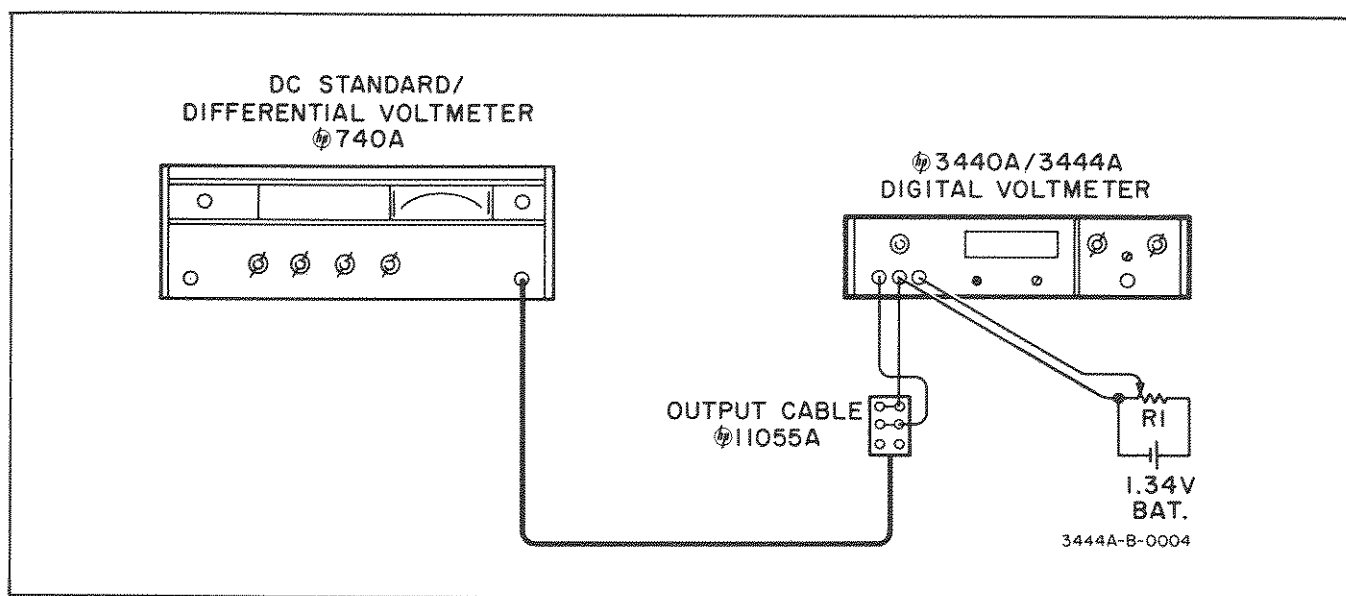

Figure 5-6. Ammeter Common Mode Rejection Test Setup.
5-31. Connect the test setup in Figure 5-6 with the output of the DC Standard turned off at the output switch.
- j. Replace the 740A Standard in the test setup, Figure 5-6, with the Audio Oscillator. Set the frequency to 60 cycles and the amplitude to minimum.
- a. Connect the test setup in Figure 5-6 with the output of the DC Standard turned off and substituting a resistor across the input terminals of the 3440A in place of the battery and potentiometer.